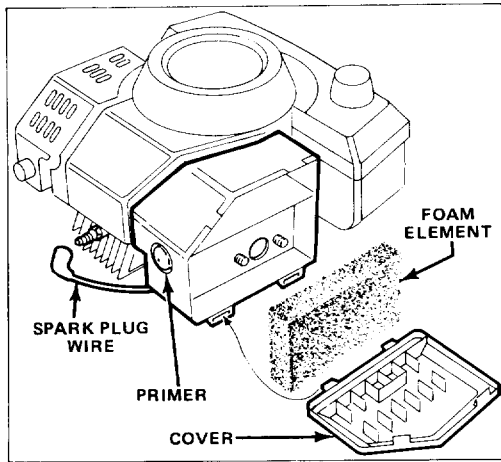

Figure 10
2. STARTING (Fig. 6 & 7)—Push wire onto spark plug. Move wheel drive control to **DISENGAGE** (model 16785 only) and throttle control to **CHOKE**. Cover hole in center of primer with thumb and push once (Fig. 10). Hold control bar against handle. Pull fingertip starter out until positive engagement results; then pull vigorously to start the engine. Regulate throttle as required when engine starts.
2. Lift tabs at top of air cleaner cover and pivot cover down. Clean cover thoroughly (Fig. 10).
3. If outside of foam element is dirty, remove it from air cleaner body (Fig. 10). Clean thoroughly.
1. Stop engine and pull wire off spark plug (Fig. 10).
2. Clean around spark plug and remove plug from cylinder head (Fig. 10).